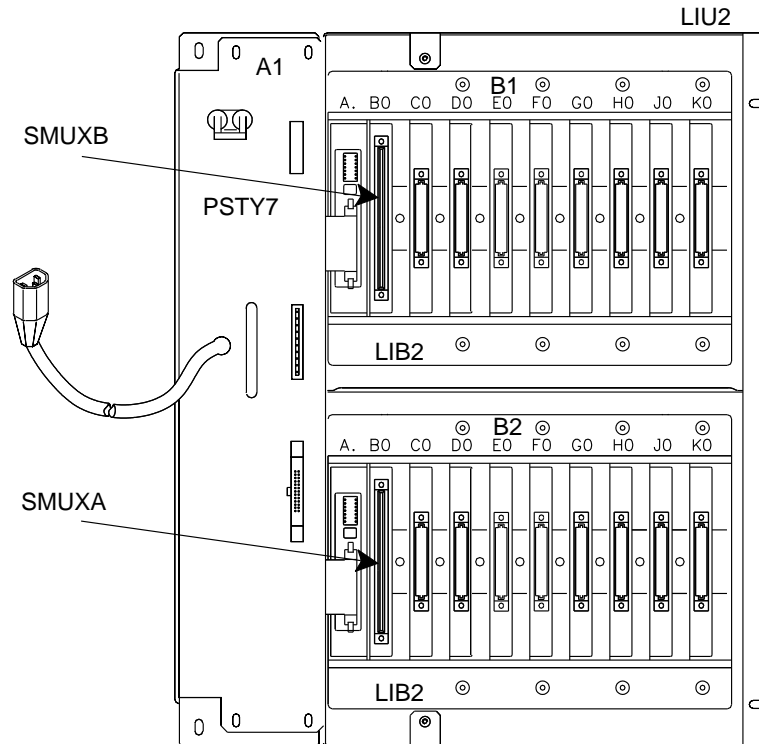

Figure 7-1. LIU2 Unit
Step 1. \_\_\_\_ Locate the LIU2 units. (Figure 7-1 shows an LIU2 unit).